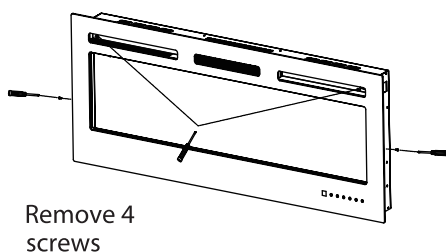

Figure 2
- C. Carefully flip the unit over and lay it face-up. Remove the screws that are on both sides of the front glass panel and white screws on both sides of the unit. [Figure 2] Save the screws for reinstalling the glass panel.